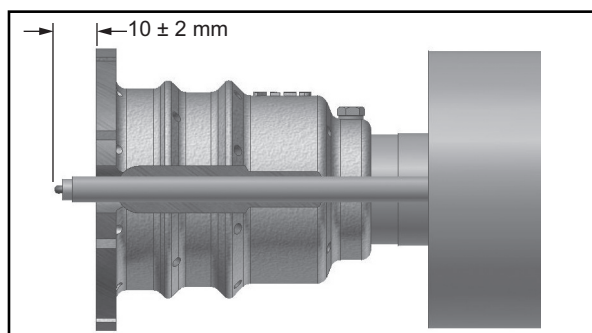
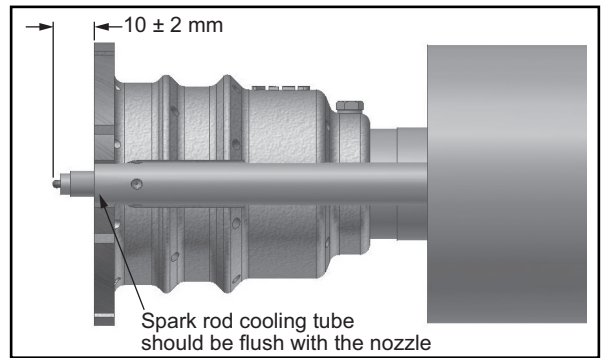

Figure 3.7
Figure 3.8
- Thread igniter through rear cover and hole in nozzle. See Figure 3.7 for burners without spark rod cooling and Figure 3.8 for models with cooling.